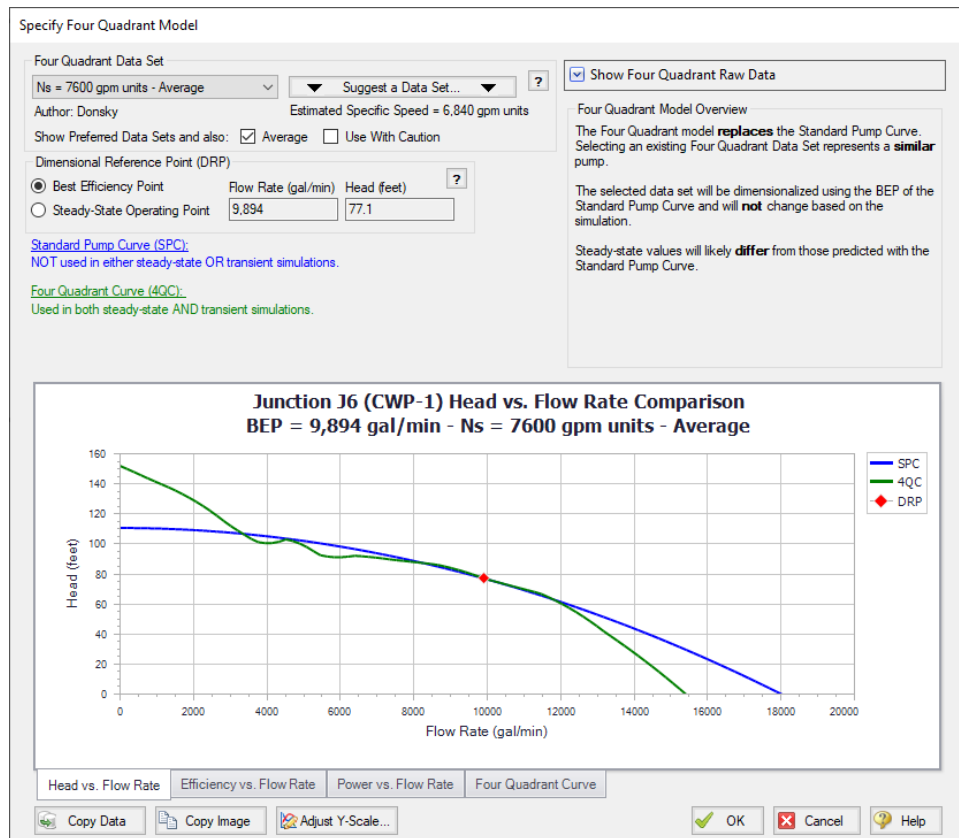

Figure 6: The Define Four Quadrant Model window can be used to select and view options for the dimensionalized four quadrant data set
- a. The $N_s = 7,600$ gpm units data set will now be selected, and the dimensionalized curve will be displayed against the previously entered Standard Pump Curve. (Figure 6)